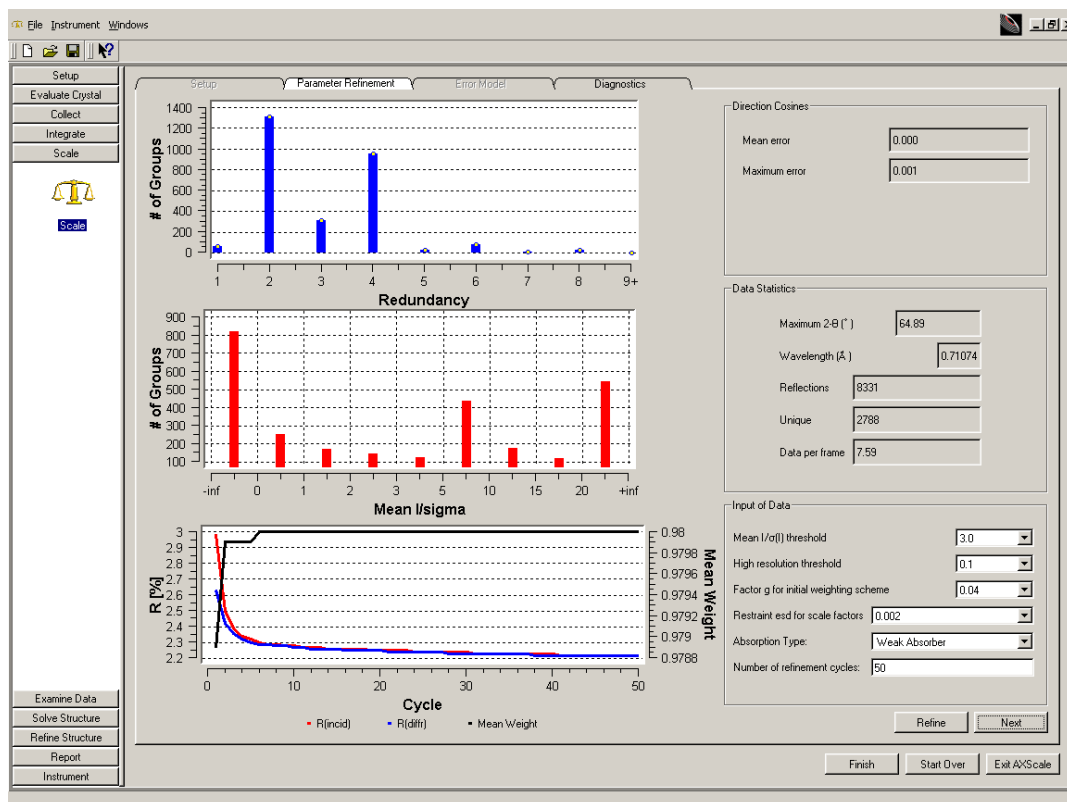

Figure 7.25 - XScale window after refinement
1. Click on Refine. Figure 7.25 shows a typical refinement result. The R-values are reduced and the Mean Weight increases. Typical final values are 3–4% for the R-values and 0.95–0.98 for the Mean Weight.